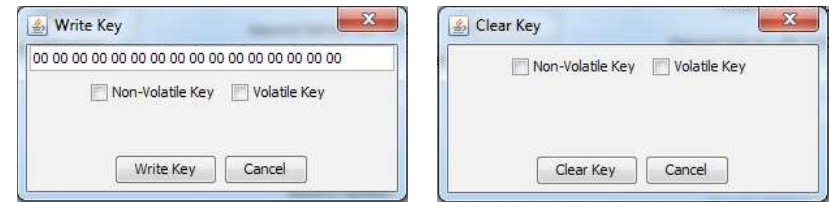

Figure 13: The Master Development System Software Write Key and Clear Key Windows
- Clicking the Write Key button opens a window where the 128-bit AES key can be entered (Figure 13).
- Clicking the Clear Key button opens a window where the key can be cleared (Figure 13).